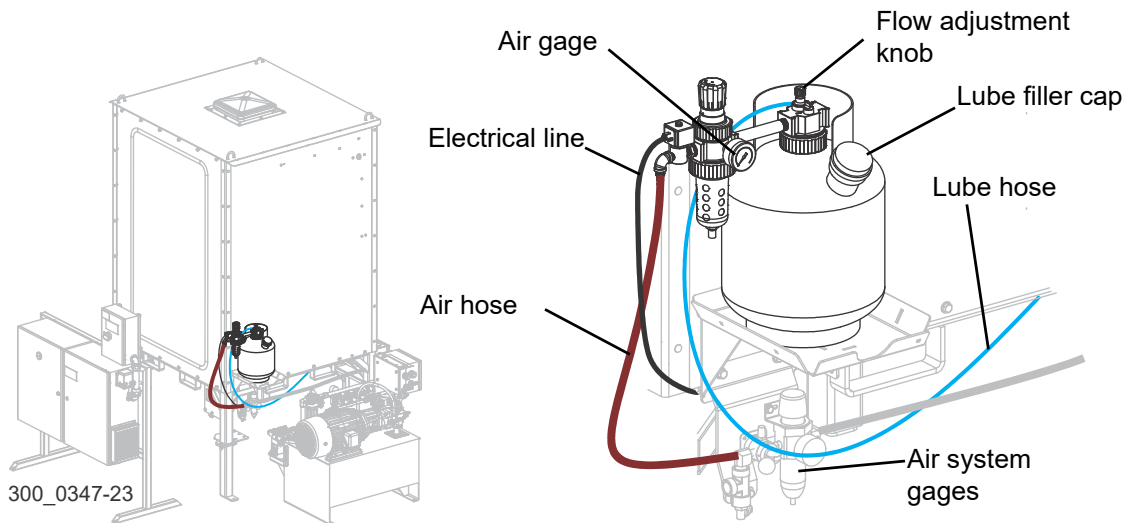

FIG. 3-27
See Figure 3-27.
1. Place the tank on the shelf, as shown in Figure 3-27.